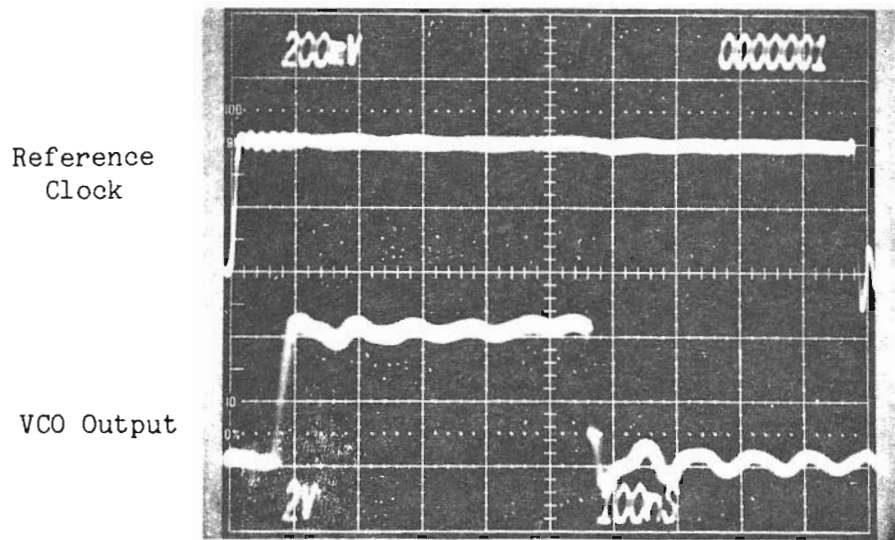
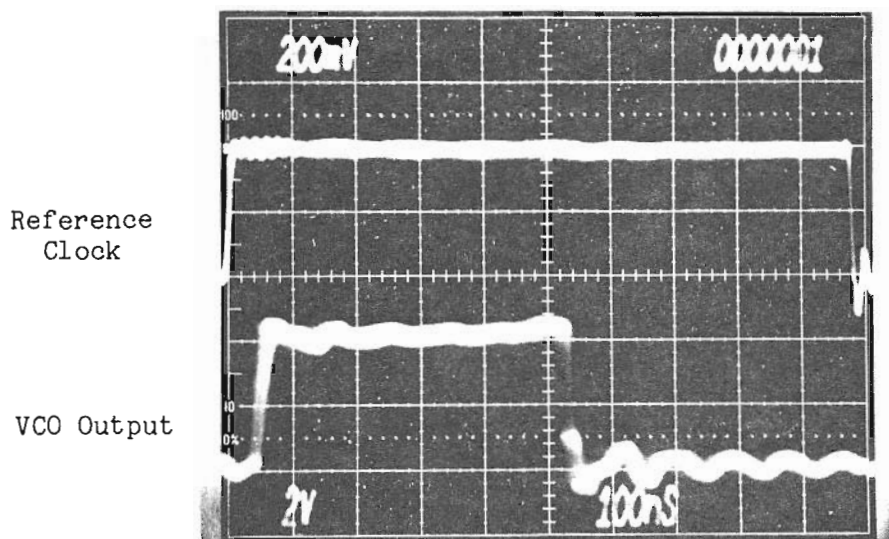

FIGURE 5 PLL CORRECTLY ADJUSTED FOR DISKETTE DRIVE
FIGURE 6 PLL INCORRECTLY ADJUSTED FOR DISKETTE DRIVE
15. Slowly adjust potentiometer R8 (diskette drive adjustment) until the leading edge of the VCO output pulse (Channel 2) occurs 0.075 usec after the leading edge of the phase detector reference clock as shown in figure 5. Figures 6 and 7 show incorrect VCO output signals.